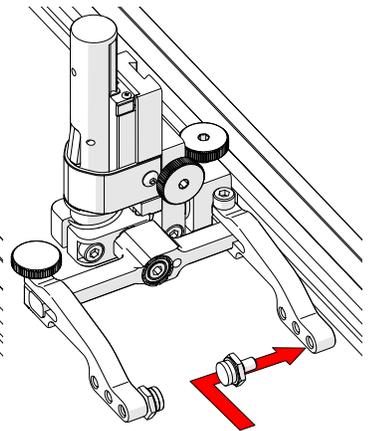

Fig. 45 - Place buttons
3. Position the pivot buttons where necessary. When a narrow scanning footprint is required, use the pivot button holes closest to the yoke (Fig. 45).